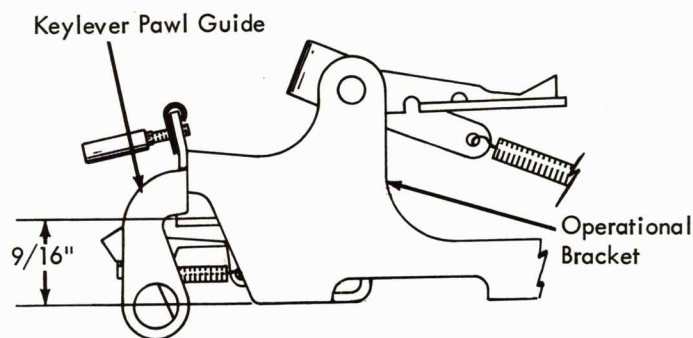

FIGURE 112. Interposer Height
- Adjust the keylever pawl guide so that the lower edge is  $\frac{9}{16}$ " from the bottom of the operational bracket (Fig. 112).